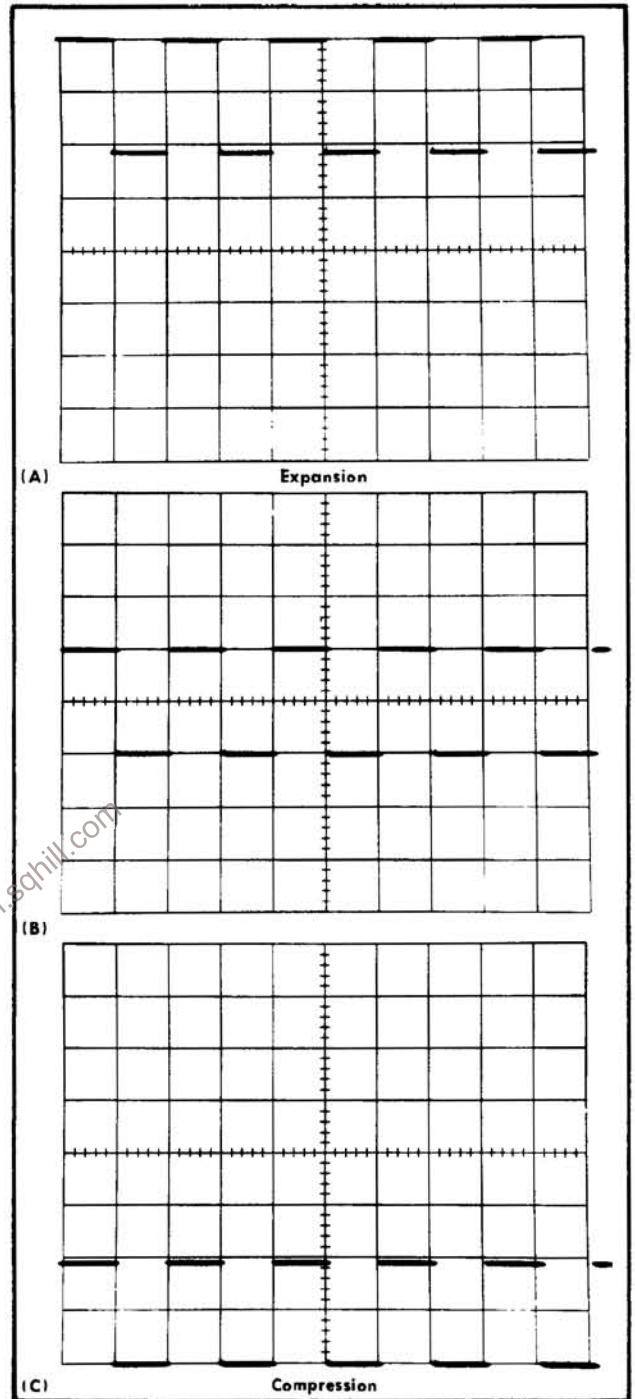

Fig. 6-20. Typical CRT display showing acceptable vertical compression and expansion. Waveform (A) shows expansion; waveform (C) shows compression.
- e. CHECK—Compression or expansion not to exceed 0.2 division (see Fig. 6-20).
- g. CHECK—Compression or expansion not to exceed 0.2 division (see Fig. 6-20).
- l. CHECK—Compression or expansion not to exceed 0.2 division (see Fig. 6-20).
- n. CHECK—Compression or expansion not to exceed 0.2 division (see Fig. 6-20).